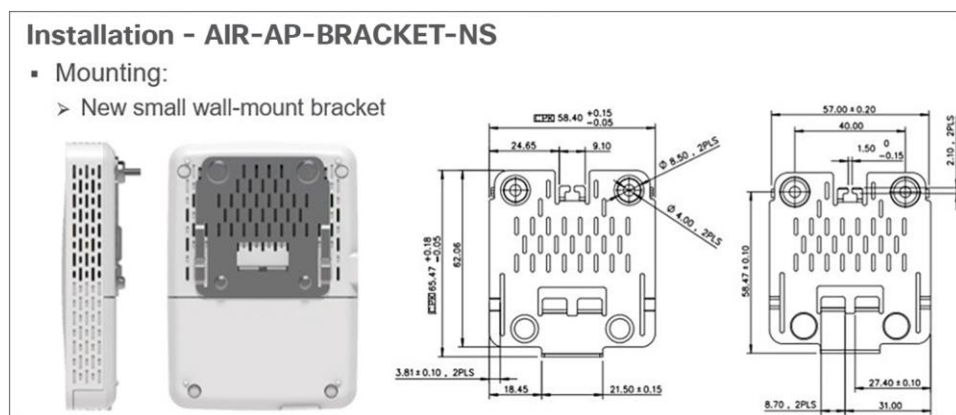

Figure 6.
- Due to its small size, the sensor uses a specially designed metal-based wall-mount bracket (part number AIR-AP-BRACKET-NS) (**Figure 6**).